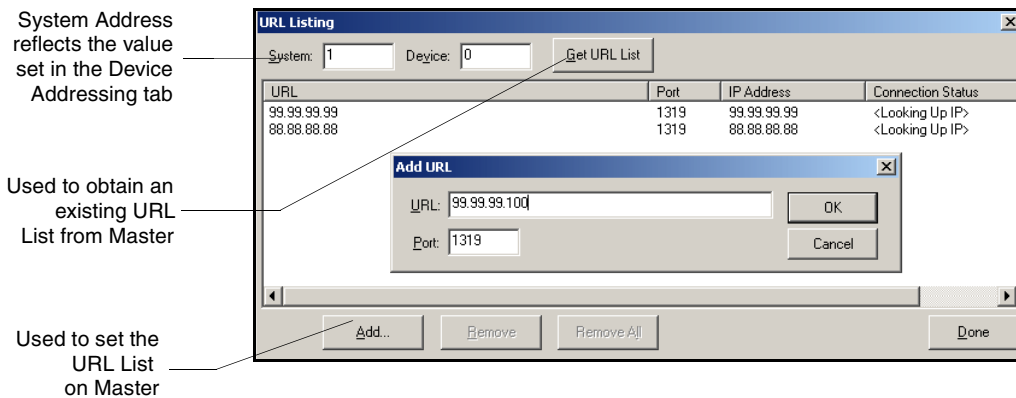

FIG. 26 URL List dialog
- Select **Diagnostics > URL Listing** from the Main menu (FIG. 26).